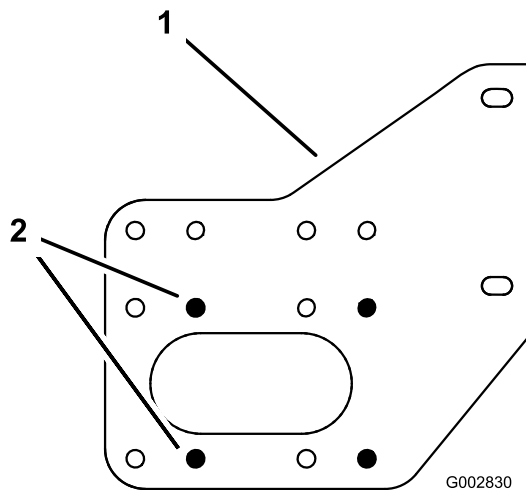

Figure 7
1. Use Figure 7 for the correct holes to use when installing the side plate and ROPS.